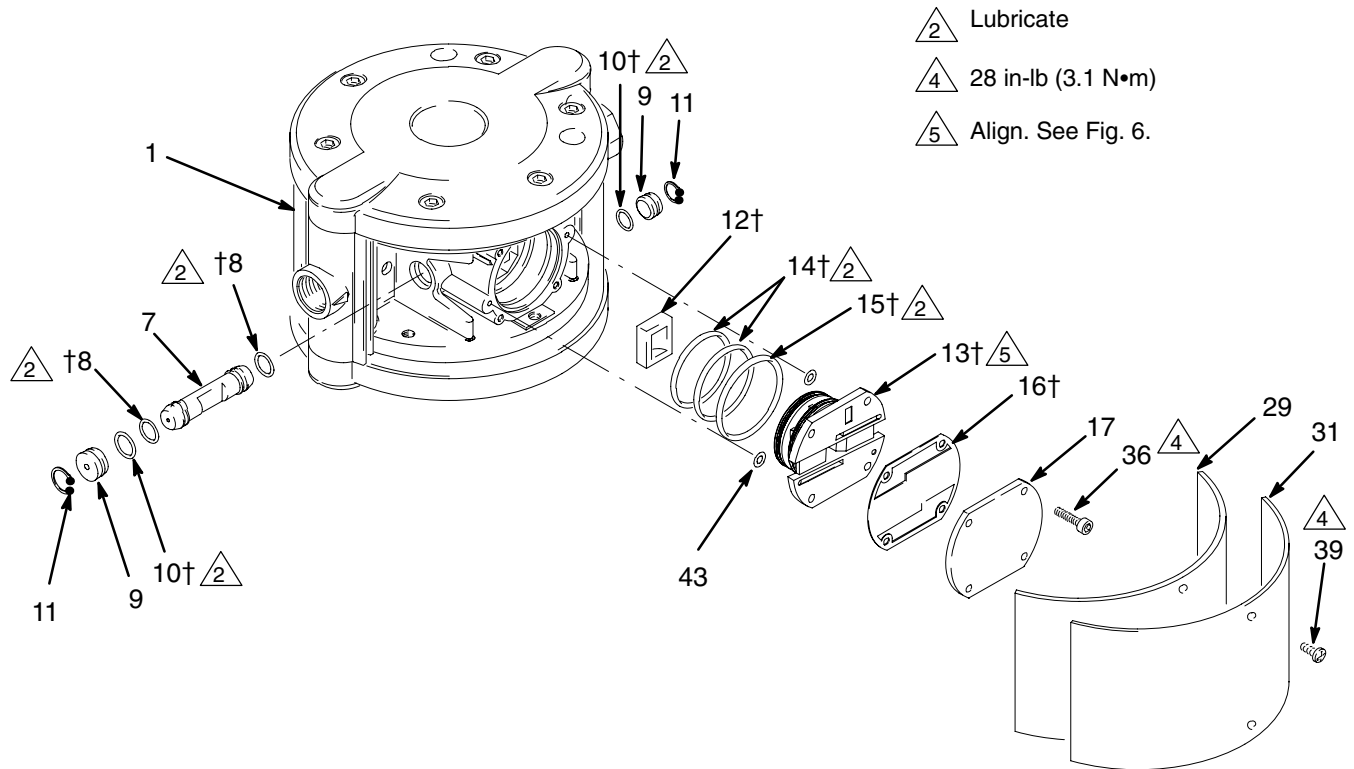

Fig. 7
1. Remove the side cover (31) and felt dampener (29).
2. Remove the four screws (36), air valve cover (17), and gasket (16). See Fig. 7.
3. See Fig. 6. Note the orientation of the air valve plate (13) relative to the fluid outlet arrow, with "POM" marking up. Pull the plate out of the center housing (1). Remove the three o-rings (14, 15) and the two o-rings (43) from the plate. See Fig. 7.
4. Remove the air valve cup (12) from the center housing (1).
5. Remove the retaining rings (11) and plug (9) from both sides, and slide the carriage (7) from the center housing (1). Remove the o-rings (8, 10) from the carriage and the plug.
1. Lubricate the o-rings (8†) and install them on the carriage (7). Slide the carriage into the center housing (1) so the notch faces out, as shown in Fig. 7.
2. Lubricate each o-ring (10†) and install them on the plugs (9). Insert a plug in each side to secure the carriage (7). Install the retaining rings (11) to hold these parts in place.
3. Install the air valve cup (12†) in the notch of the carriage (7) so the open side faces out.
4. Install two o-rings (43) in the counterbore of the air motor.